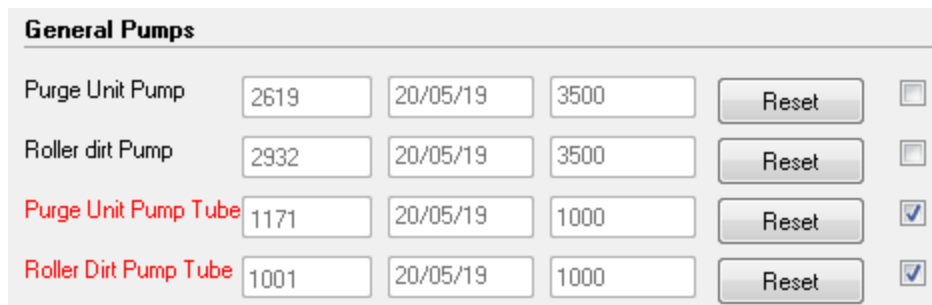

Figure 4-158 Pump Maintenance Counters
21. Open the *Maintenance Counters* screen, scroll down to the *General Pumps* section, and click **Reset** for the relevant counter(s) (see Figure 4-158 on page 4-103).